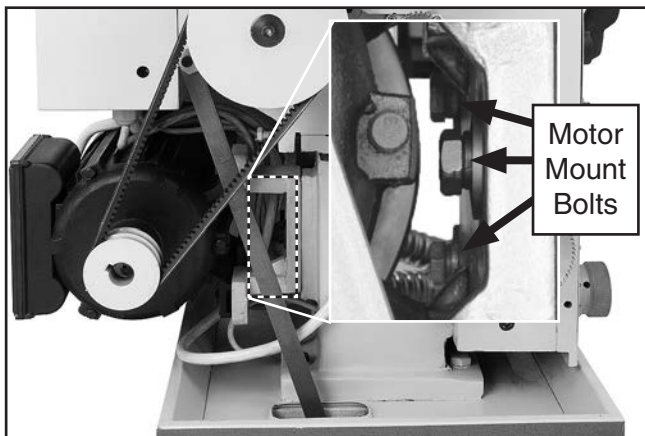

Figure 104. Location of motor mount bolts.
3. Loosen the motor mount bolts shown in **Figure 104**, and slide the motor up, remove the belts.